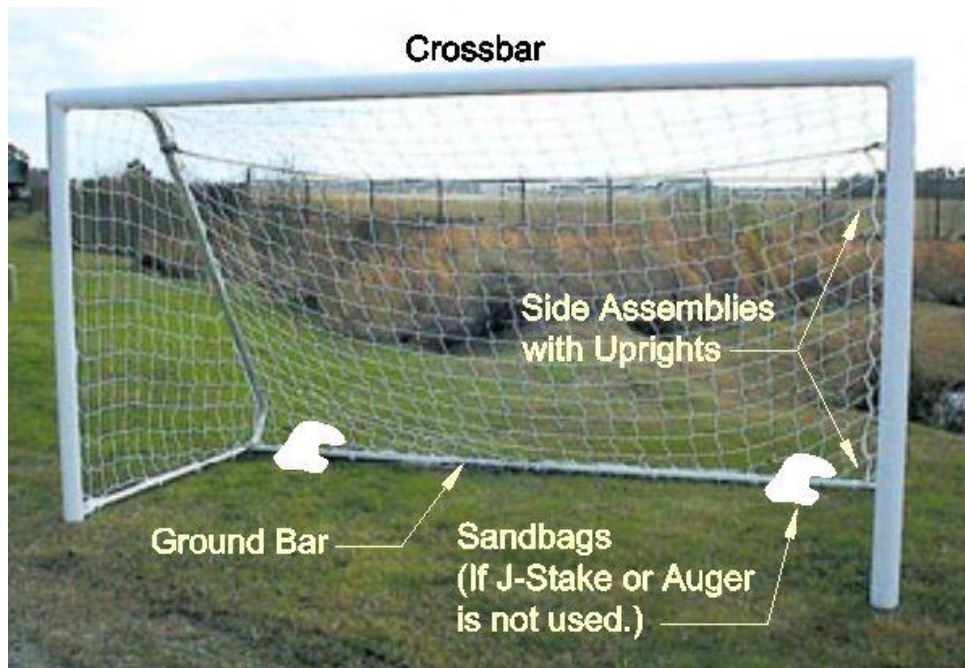

Figure 6. Assembled Competition series goal.
14. Ensure net is completely attached to Goal Assembly. (See Figure 6)
15. Ensure Bolts, Nuts and Set Screws are all still properly tightened. (See Figure 6)